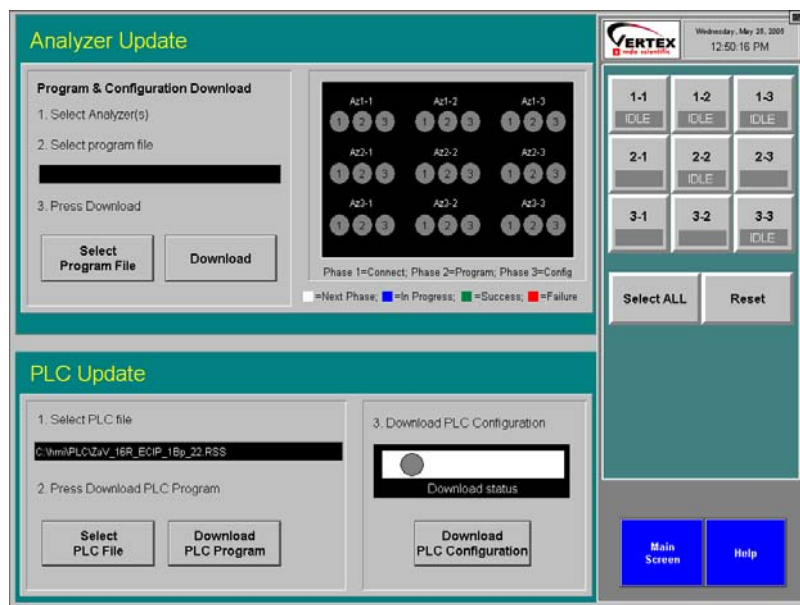

Figure 1 -- Program Update Screen
5. In RSView, touch <Project> then <Program Update>. A program update screen similar to Figure 1 should appear.